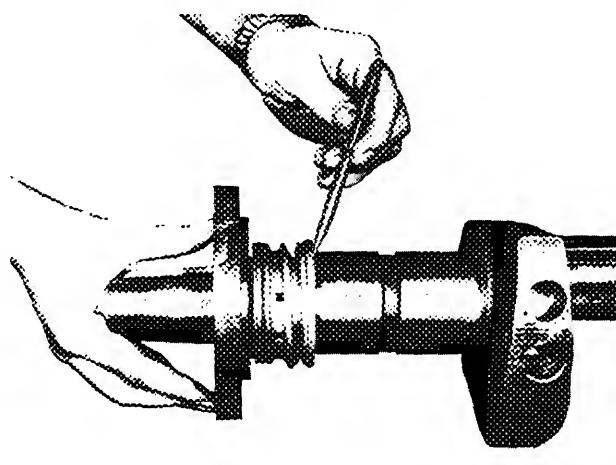

FIG. 32 - INSTALLING NEW SEAL
All 5H120 shaft seals should be replaced by this seal. To make it easier to see how the seal is installed, the crankshaft is shown removed from the compressor in Fig. 32.
- NOTE: The shaft seal must be tight against the shaft shoulder as shown in Fig. 32.*